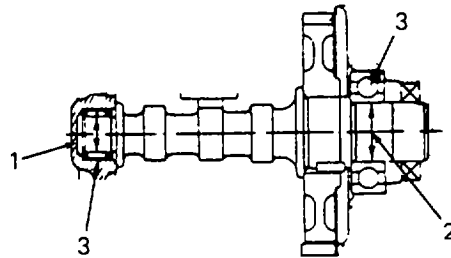

Figure 6-12. Camshaft Bearings
- d. Refer to Figure 6-12. Check the OD of the camshaft on the needle bearing/cylinder block side (1) OD of camshaft must be at least 0.587 inches (14.92 mm). Replace camshaft and both bearings (2) if OD is under the wear limit.